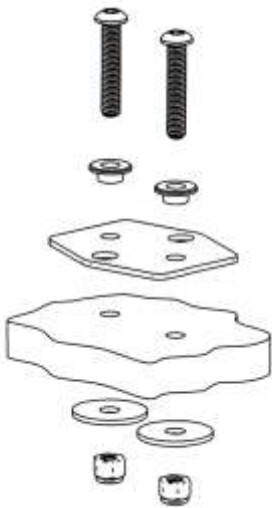

Figure 1.
4. Install hardware as shown in Figure 1. Be sure to install mushroom spacers flange-side up. Torque locknuts to 11 ft. lbs.